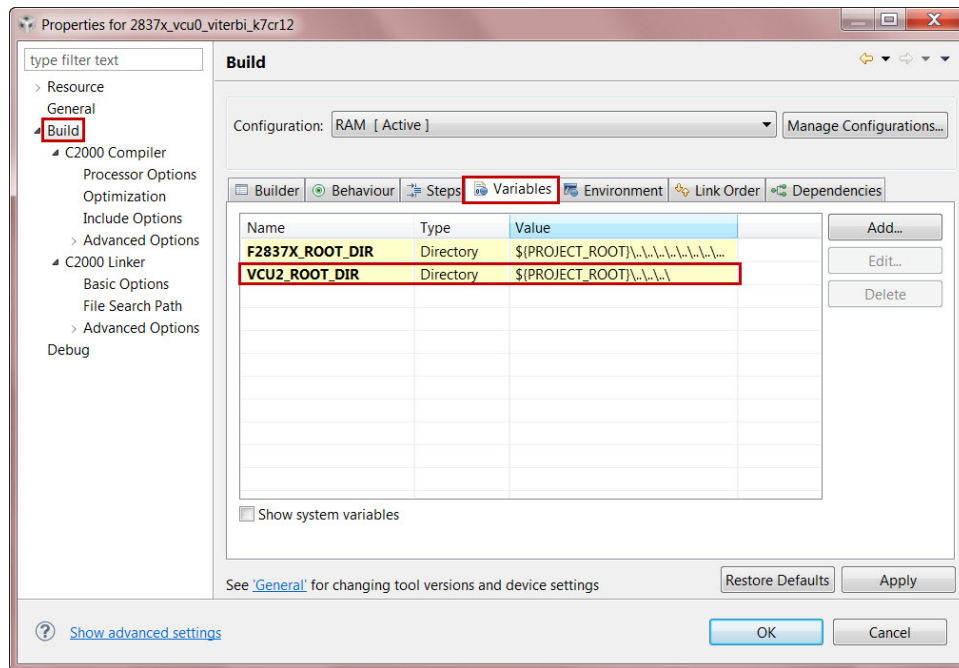

Figure 4.3: Creating a new build variable
1. Go to the **Project Properties->Build->Variables(Tab)** and add a new variable (see Fig. 4.3), VCU2\_ROOT\_DIR, and point it to the root directory of the VCU library in controlsuite, this is usually the version folder.